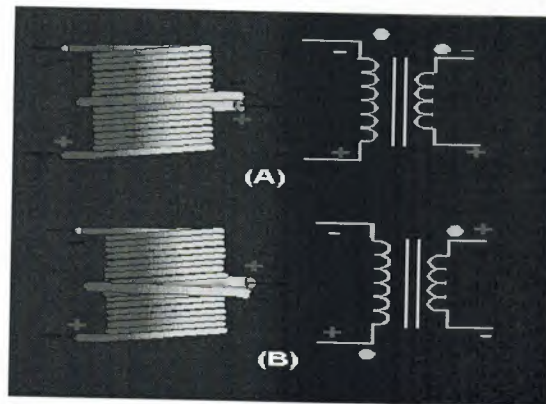

Figure 1.6.9 - Instantaneous polarity depends on direction of winding.
Transformers in which the secondary voltage is in phase with the primary are referred to as LIKE-WOUND transformers, while those in which the voltages are 180 degrees out of phase are called UNLIKE-WOUND transformers. Dots are used to indicate points on a transformer schematic symbol that have the same instantaneous polarity (points that are in phase). The use of phase-indicating dots is illustrated in figure 1.6.9. In part (A) of the figure, both the primary and secondary windings are wound from top to bottom in a clockwise direction, as viewed from above the windings. When constructed in this manner, the top lead of the primary and the top lead of the secondary have the SAME polarity. This is indicated by the dots on the transformer symbol. A lack of phasing dots indicates a reversal of polarity.